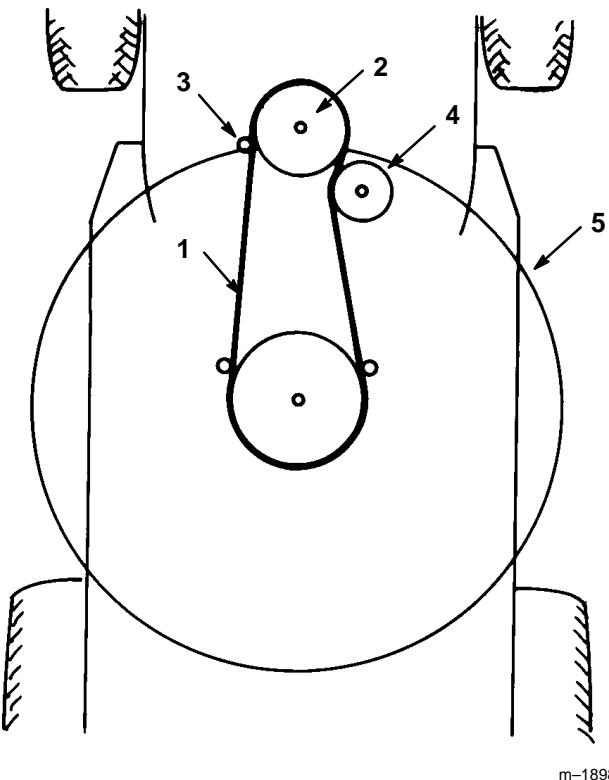

Figure 40
- Remove the mower belt from the lower engine pulley (Fig. 40). If you are careful, you can flex the belt guide(s) just far enough away from the pulley to remove the belt. If it is too difficult to remove the belt, loosen the bolts and nuts securing the belt guides.
4. Install mower belt onto the lower engine pulley (Fig. 40). If you are careful, you can flex the belt guide(s) just far enough away from the pulley to install the belt. If it is too difficult to install the belt, loosen the bolts and nuts securing the belt guides.